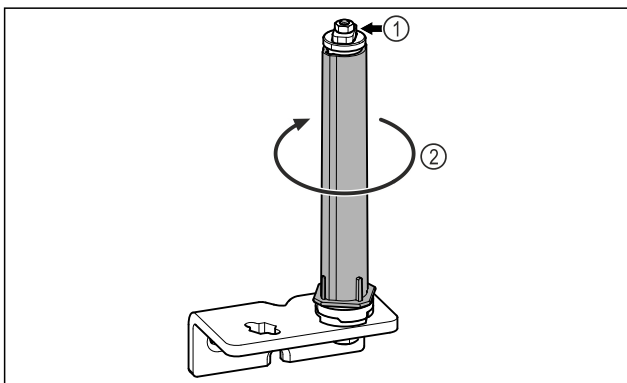

Fig. 16
► Do not disassemble the door locking system Fig. 16 (1).
► Turn the locking system Fig. 16 (2) until it clicks.